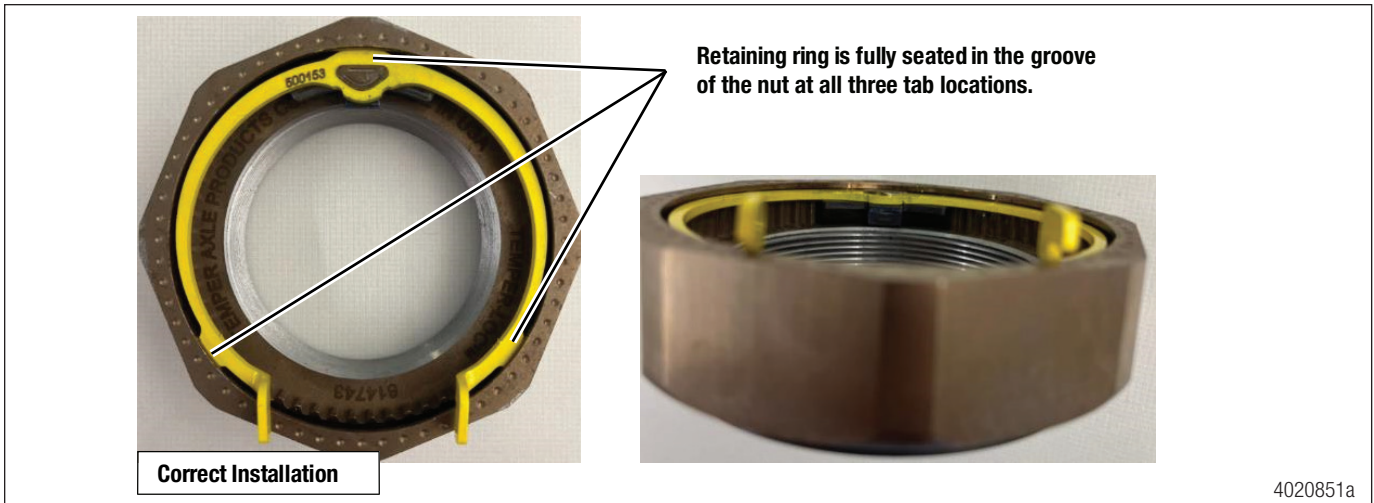

Figure 1: Retaining Ring Installed Correctly – No Action Needed
3. Verify presence of the yellow retaining ring. Figure 1.
4. Verify the EasyView tabs and locking teeth of the key are fully seated in the nut as shown in Figure 1.
NOTE: The EasyView notches of all three tabs must be completely hidden in the nut groove to be sure of correct retaining ring engagement. Figure 1.
- c. The EasyView notches of all three tabs must be completely hidden in the nut groove to be sure of correct retaining ring engagement. Figure 1.